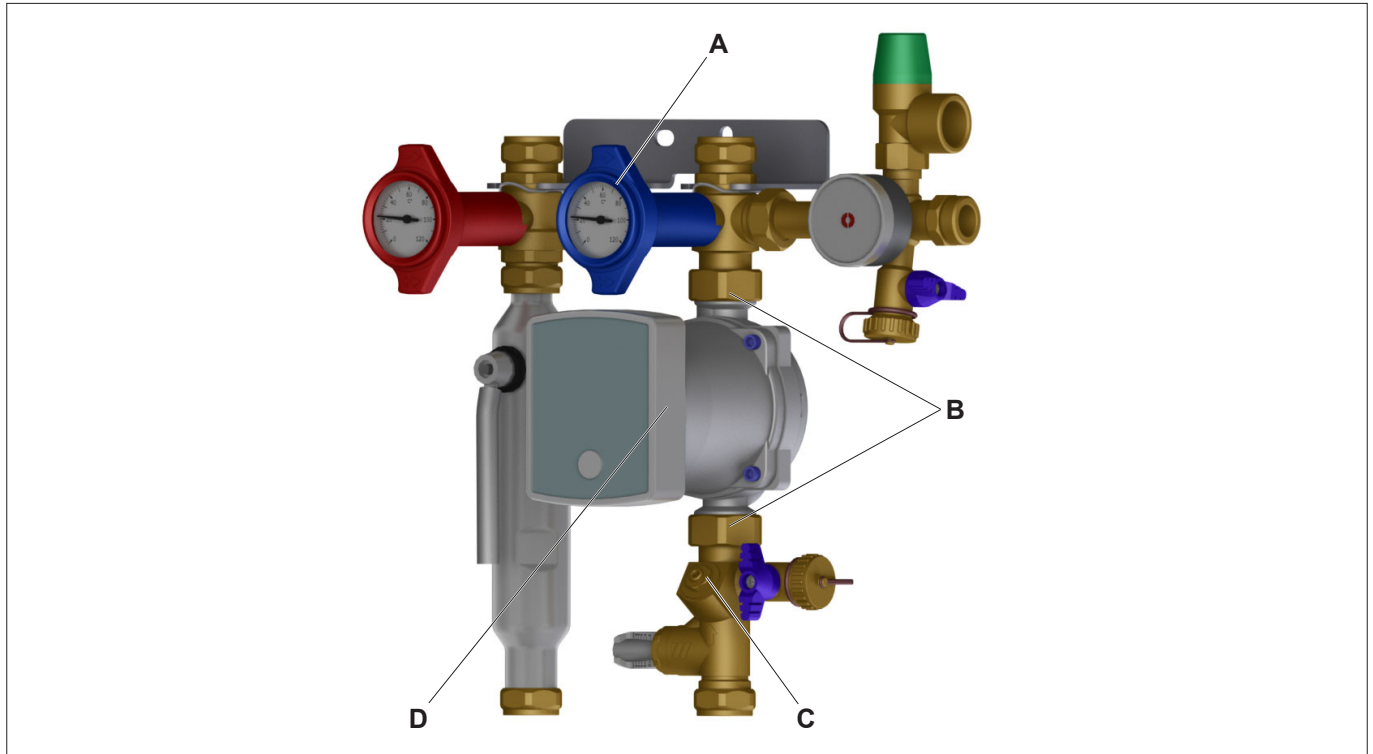

Fig. 11: Dismantle circulation pump solar circuit (represented type 8130 with venting pipe and regulator)
- Close the regulator/gate valve (Pos. C, see Fig. 11 on page 17).
- Loosen the wiring of the solar pump (Pos. D, see Fig. 11 on page 17).
- Slowly** open the return ball valve (multifunction armature, Pos. A, see Fig. 11 on page 17) by rotating the thermometer handle 90 degree in the clockwise direction till the stop (see „Thermometer handle settings“ on page 14).
- Slowly** open the regulator/gate valve (Pos. C, see Fig. 11 on page 17).
- Adjust the flow rate with Allen wrench SW 4 (Pos. C, see Fig. 11 on page 17).